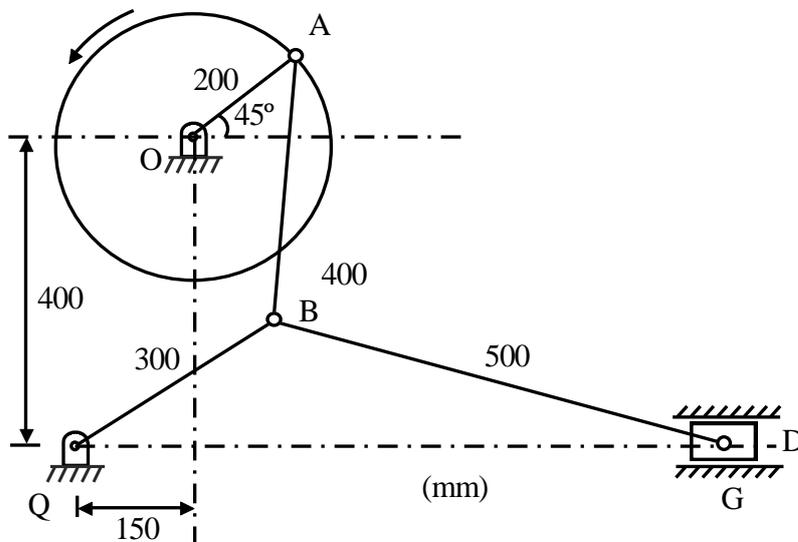

Fig. 4.1
- b) In the toggle mechanism shown in fig 4.1 the crank OA rotates at 210 rpm counter-clockwise increasing at the rate of 60 rad/s². For the given configuration, determine **10**